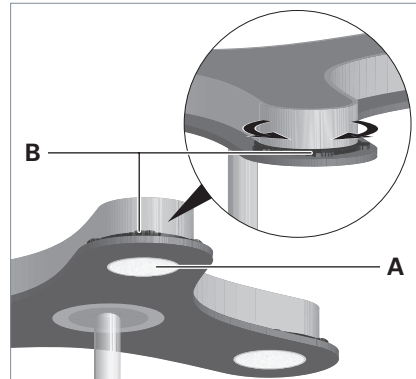

Fig. 14: Aligning the direct light optics.
- ▶ Rotate the wheels **B**, see Fig. 14. This will rotate the optics **A** and deflect the direct light.